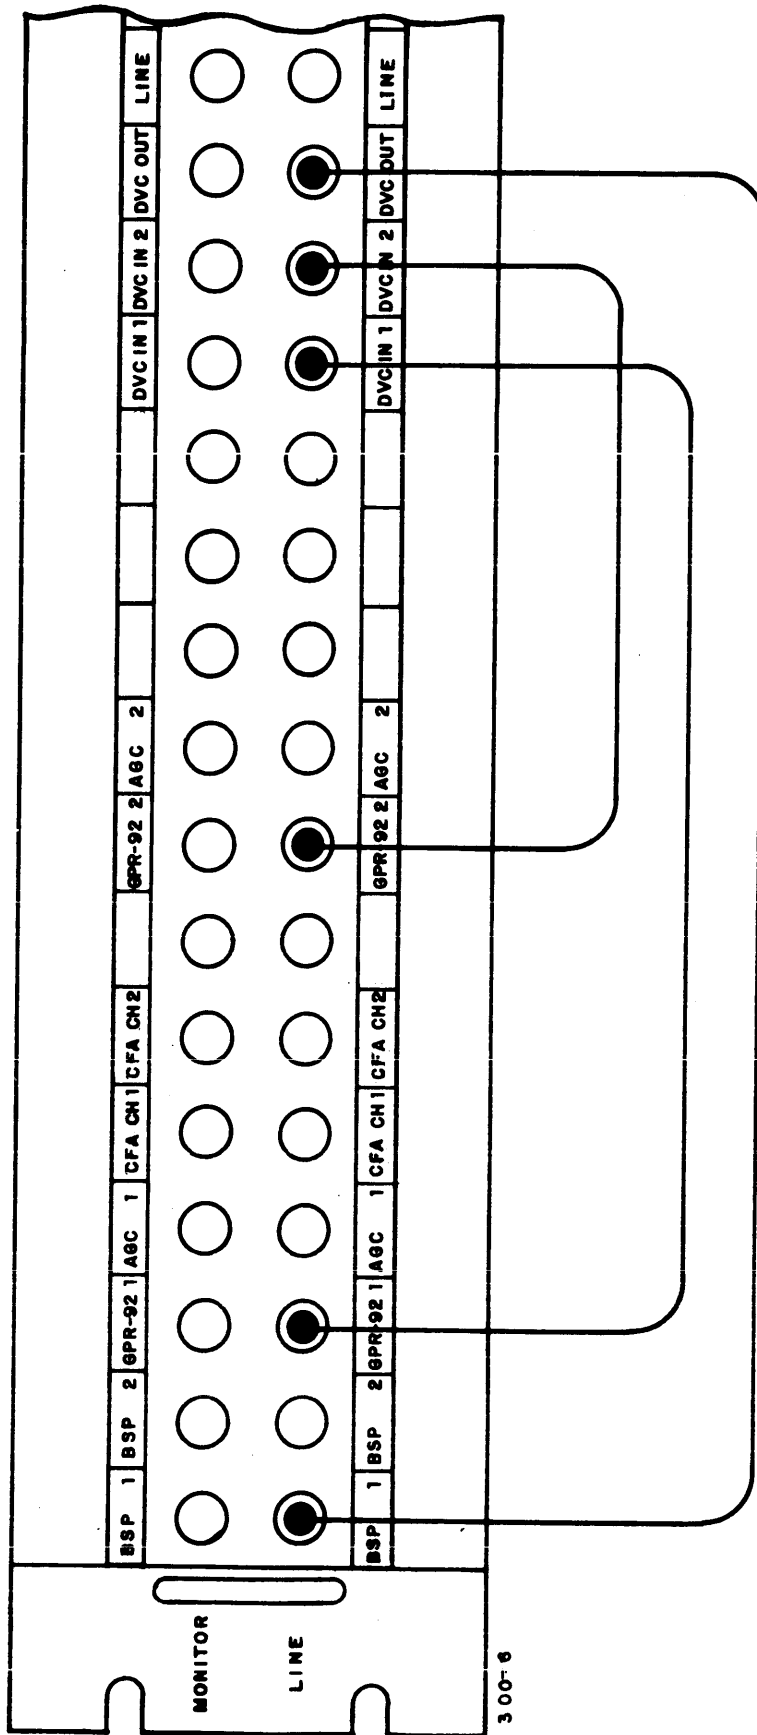

Figure 3-2. Patchcord Connections, Diversity Voice Combiner
- (1) Make patch-cord connections on Line Patch Panel LPP-4 as illustrated in figure 3-2.
- (2) Start the DDR-8 as outlined in paragraph 3-3b.
- (3) Set front-panel controls of both GPR-92 receivers as follows: